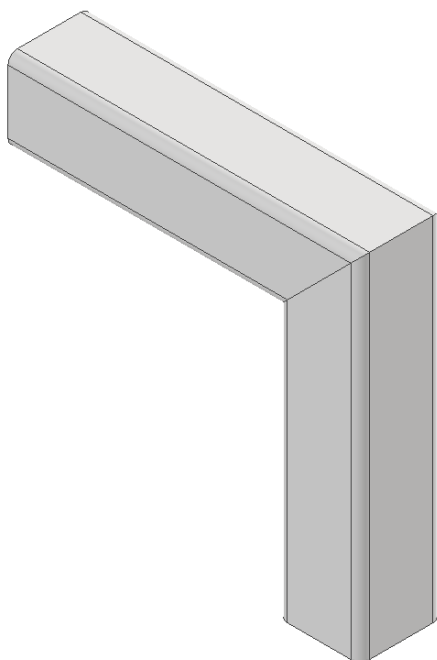

fig.1
STEP 1. Download the bracket (no. PT006 L_000) (fig.1).